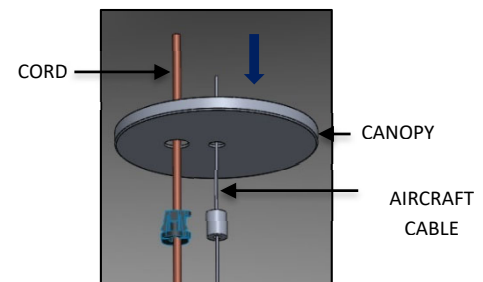

FIG. 18 – CANOPY PLATE
- Pass the CANOPY through the AIRCRAFT CABLE and CORD in such a way that the AIRCRAFT CABLE goes through the center hole on the CANOPY and CORD passes through the second hole as shown in FIG. 18.